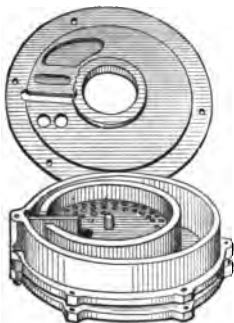
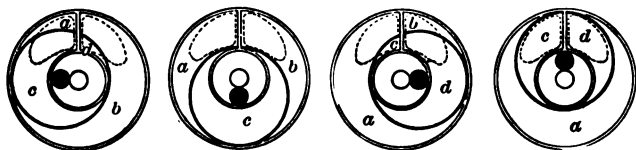

FIG. 70. — Water meter.
FIG. 71. — Diagrams to show operation of water meter.
**77. Water meter.** It is common now to measure the quantity of water which is used by each house. This is done by an instrument called a water meter. There are several types of these meters; one of the simplest is shown in figure 70, and its action is shown in the four diagrams in figure 71. The water enters through the left-hand kidney-shaped opening, shown by dotted lines, and leaves through the similar opening at the right. The moving part, shown by the heavy line, has a hub (the black circle) that travels around in the little circular track provided for it, the moving part meanwhile oscillating to and fro without turning completely around. This makes the various annular spaces enlarge as long as they are in connection with the inlet (watch,